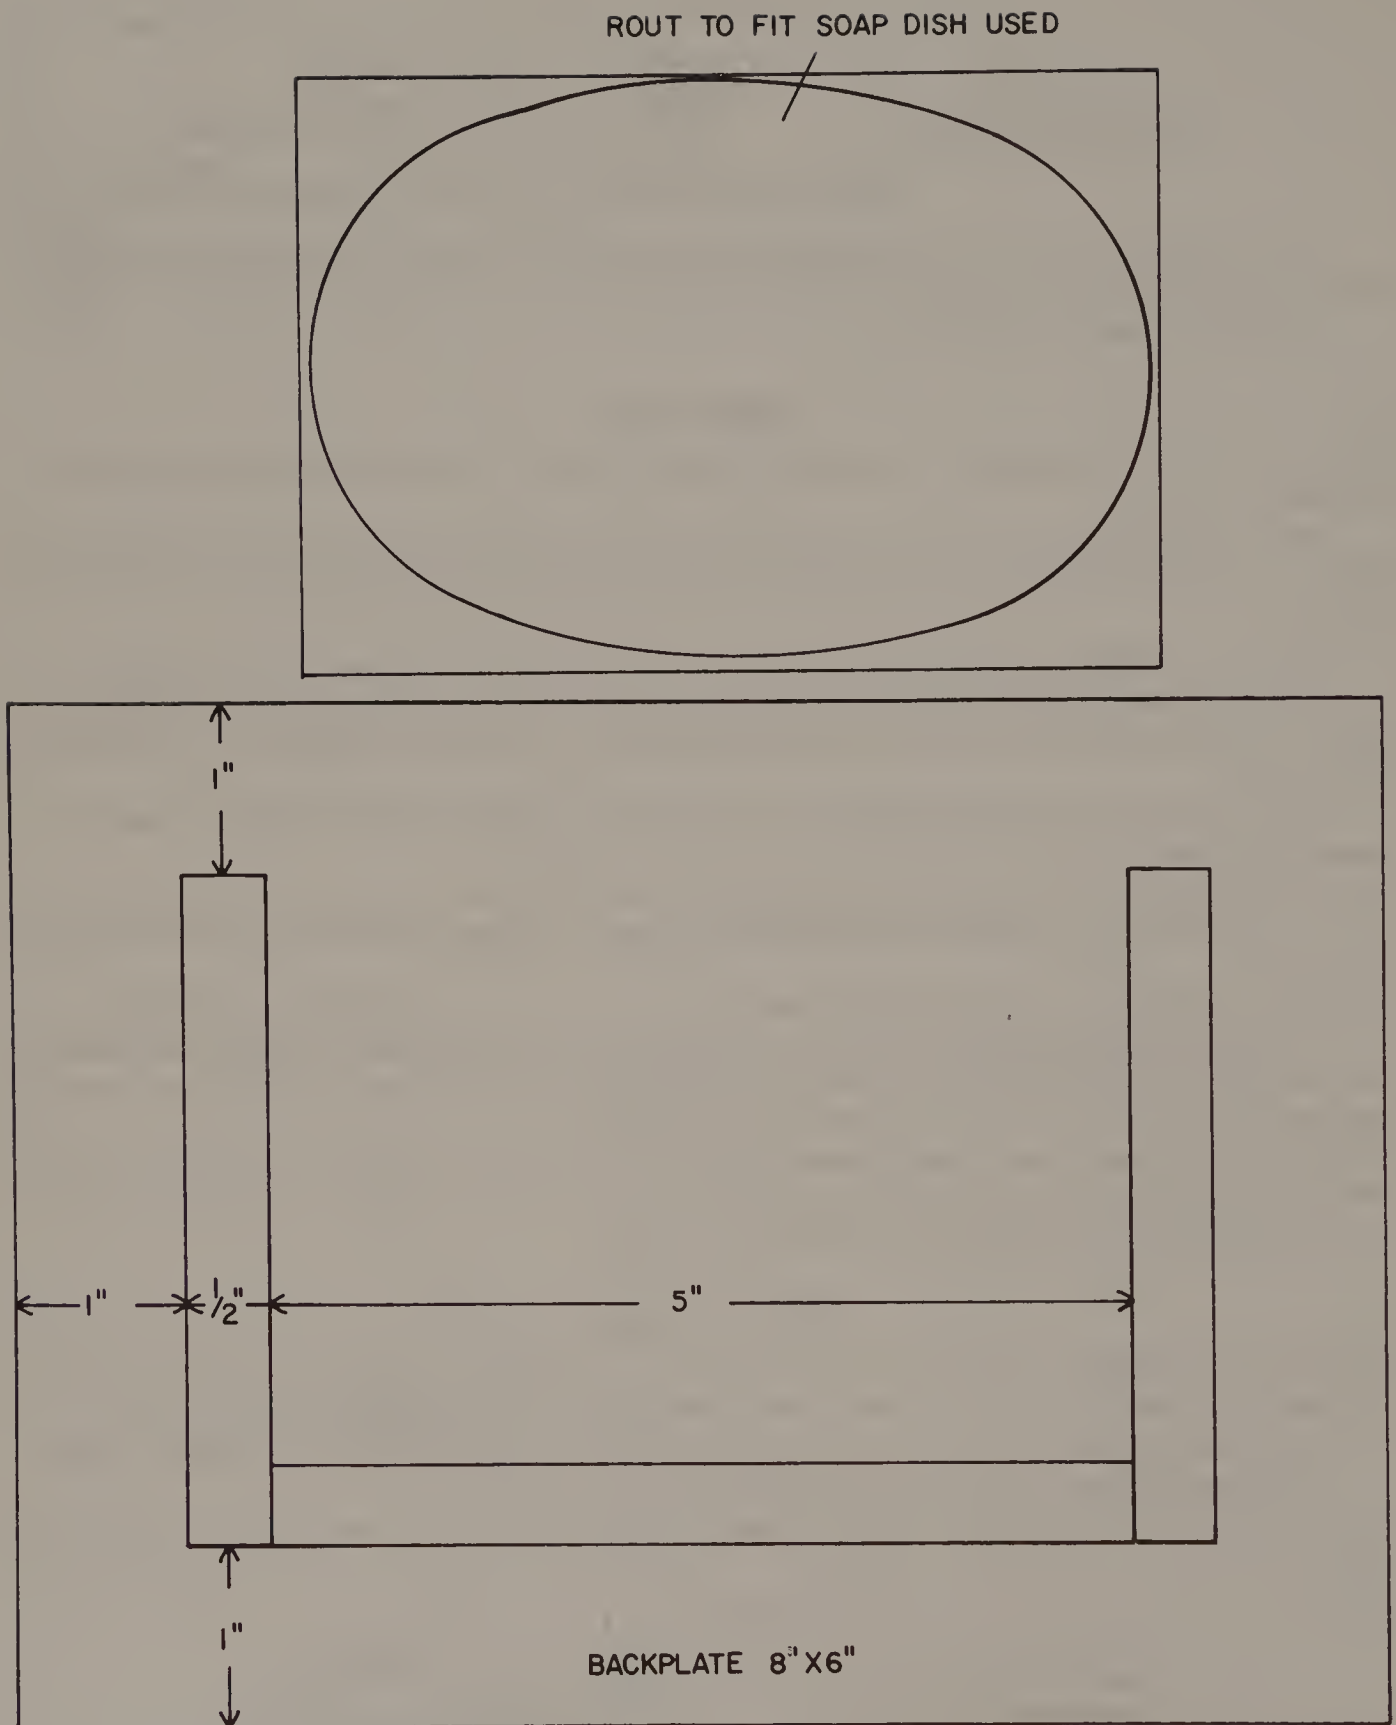

Fig. 8-10. The soap dish holder is a companion piece to the towel rack.
- ☐ Cut the backplate square to size to the dimensions given in Fig. 8-10. Sand all edges smooth.